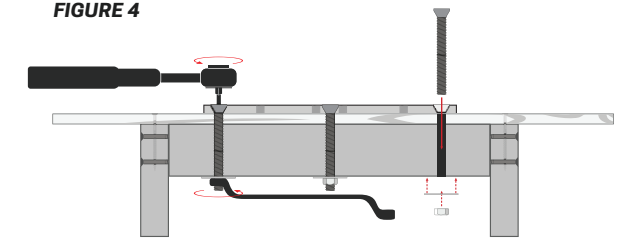

FIGURE 5
Your Eclipse® Cantilever comes with the Spigot already inserted in the mast of your umbrella. Once you have properly installed to your selected mount/base option, remove the Spigot from your umbrella and you can begin to mount your Spigot to the Deck Plate, and then the umbrella (see **FIGURE 5**).
7. Retrieve the Spigot from your umbrella. It will already be inserted into the mast. Place the Spigot on the Deck Plate lining up the inner four bolts. Using the supplied hardware that is packed with your umbrella, bolt the Spigot onto the Deck Plate (**FIGURE 5**). Once your Spigot is secure to the Deck Plate, begin to lift the Eclipse® onto the Spigot until you hear an audible "click" indicating your umbrella is secure.